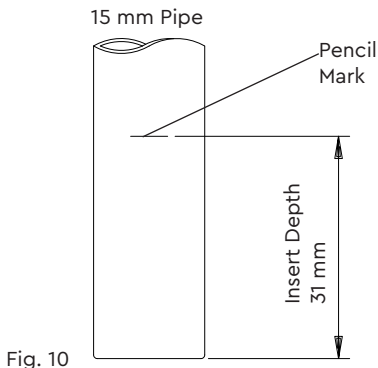

Fig. 10
Ensure the pipe is free from all score marks and deformities in the area of the insertion depth (Fig. 10) and cut the pipe square, removing all burrs and sharp edges to prevent damage to the sealing 'O'-ring.
2. Prior to inserting pipe into fitting, mark the insert depth on the wall of the pipe with a soft pencil at a distance of 31 mm from the end to be inserted (Fig. 10).